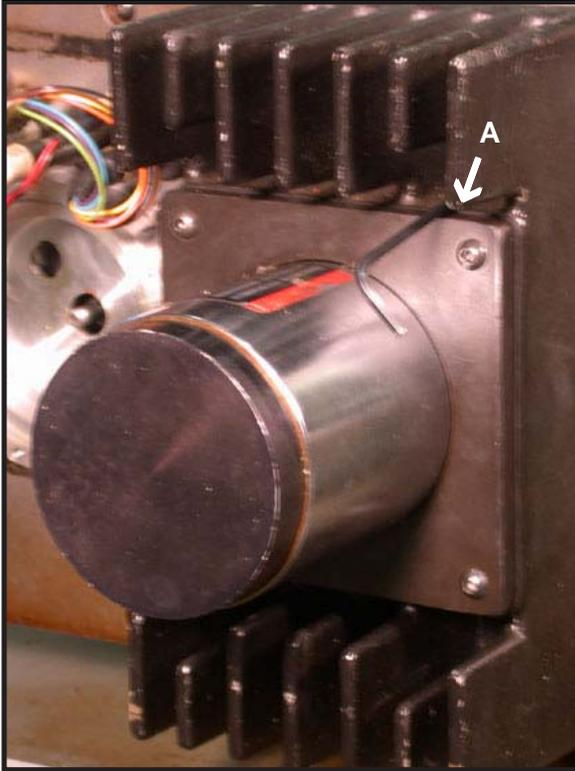

Figure 4.4.1
Remove (4) S.H.C. screws that hold the Z axis motor and Z axis heat sink. The (4) screws are down in the heat sink fins (Figure 4.4.1 - A).